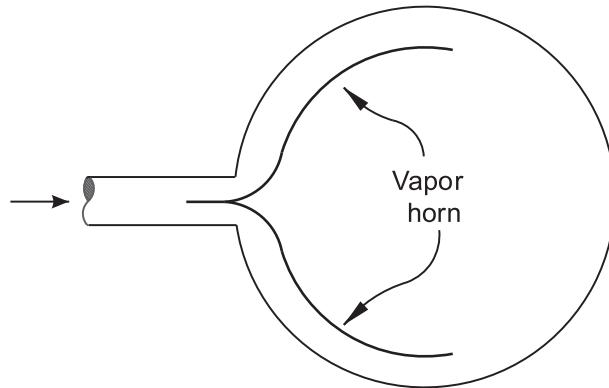

FIG. 5.1 Vapor horn promotes better phase separation.
3. “ C ” between 0.15 and 0.20 = Addition of a tangential baffle or vapor horn, in addition to items in #2, above is needed (Fig. 5.1).